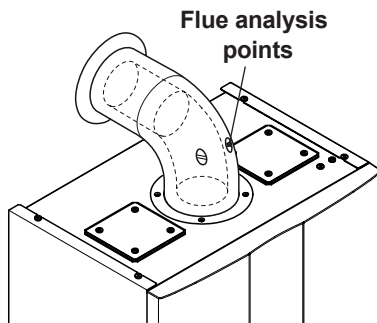

Fig. 10.13
It is recommended that a combustion analysis check is made. Remove the plug as indicated in Fig. 10.13 and carry out combustion analysis check and adjustment if necessary as described in the section Gas valve - Adjustment of the Service manual.
- Check the combustion of the boiler using the outlets located on the flue tubes (Fig. 10.13) and compare the data measured with that following.